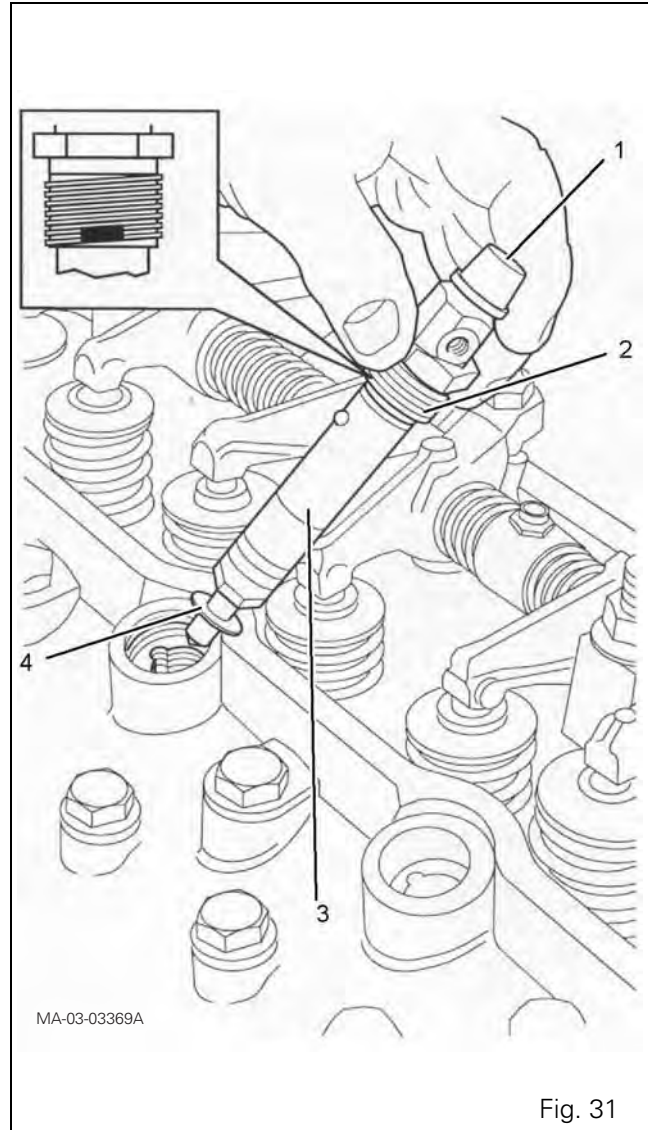

Fig. 31
159. Remove the injector of the second cylinder. Loosen the threaded nut (2) on the injector (3) (Fig. 31).
171. Carefully clean the threads of the threaded nut (2) on the injector and in the cylinder head (Fig. 31).
174. Position the injector (3) in the cylinder head. Check that the injector interlock ball (6) is correctly aligned with the cylinder head slot (4) (Fig. 31).